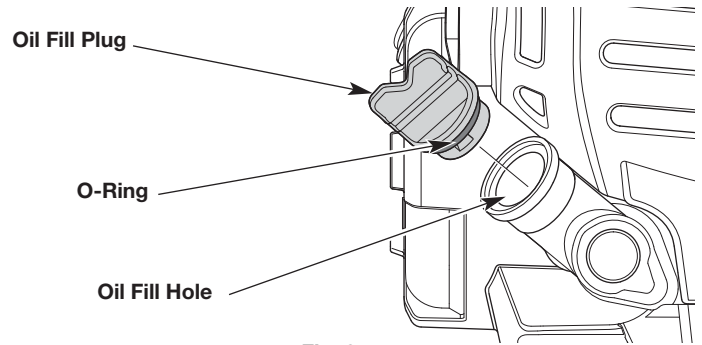

Fig. 8
4. Unscrew the oil fill plug (Fig. 8).
5. Pour the entire bottle into the oil fill hole (Fig. 8). **DO NOT** overfill. Refer to *Checking the Oil Level*.
**NOTE:** Make sure the O-ring is in place on the oil fill plug (Fig. 8).